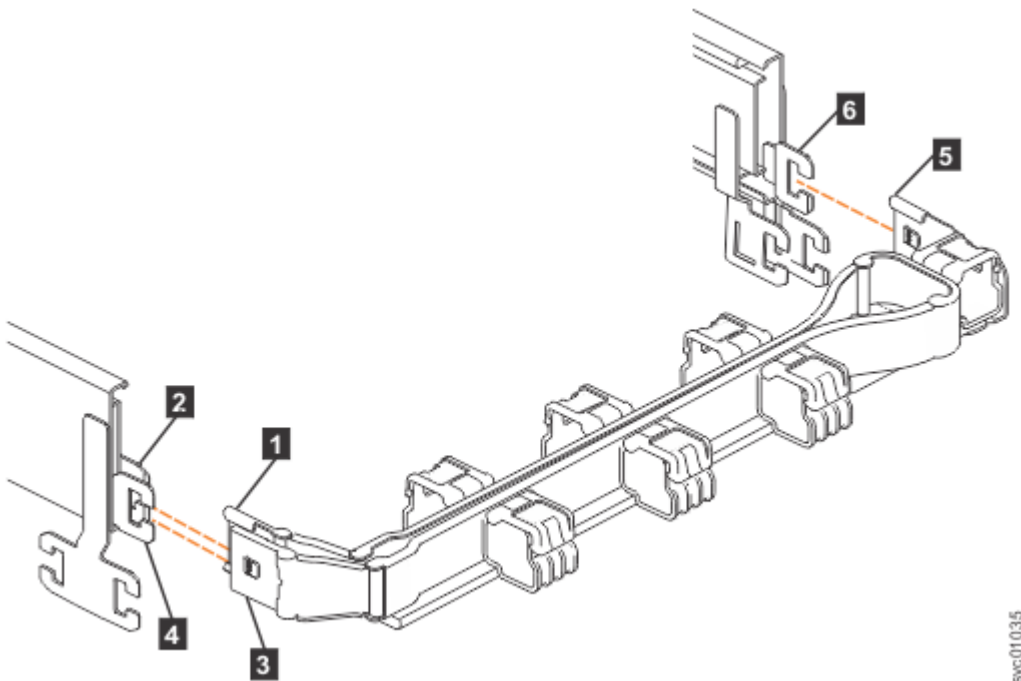

Figure 65. Connectors for the upper cable management arm
The connectors of the CMA are installed on the rail hooks at the end of the support rails. Figure 65 on page 60 shows the connectors on the upper CMA assembly.
1. Press the latch on the connector base on the upper CMA assembly (**5** in Figure 65 on page 60).
2. Pull the connector to remove it from the connector base on the right support rail (**6** in Figure 65 on page 60).
3. Press the latch on the outer connector of the upper CMA assembly (**3** in Figure 65 on page 60).
4. Remove the outer connector from the inner member of the left support rail (**4** in Figure 65 on page 60).
5. Remove the inner connector of the upper CMA assembly (**1**) from the inner member of the left support rail (**2**), as shown in Figure 65 on page 60.
**Note:** The procedure for removing the lower CMA assembly is the same as the procedure to remove the upper CMA assembly. However, the connector locations are reversed. For example, the connector base of the upper CMA (**5** in Figure 65 on page 60) connects to the right rail. The connector base of the lower CMA (**11** in Figure 66 on page 61) attaches to the left rail.